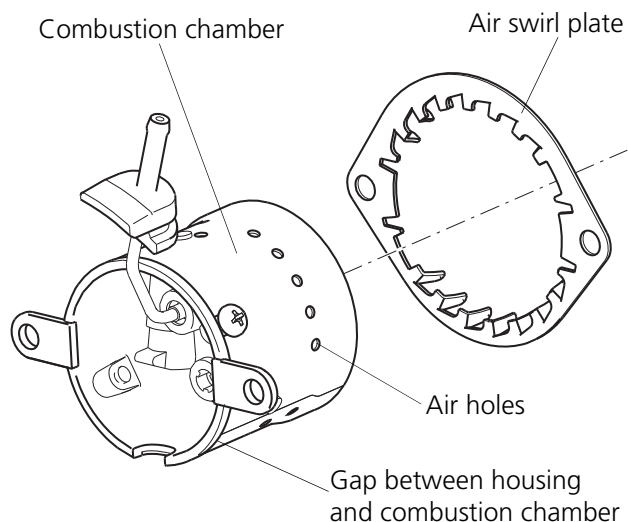

Figure 12: Visual check, complete burner
- The combustion chamber (Fig. 12) should not be damaged (e.g. dented). A dented combustion chamber can lead to poor combustion or carbon build-up in the heater.
- The air holes (Fig. 12) in the combustion chamber must not be blocked up by carbon deposits. If the air holes are blocked up by carbon deposits, this may result in failure of combustion to start or to run effectively.
- The screw connection of the housing and combustion chamber (Fig. 12) must be tight.
- The housing and the combustion chamber (Fig. 12) must be firmly connected together and there must not be any play (check by moving the fuel pipe slightly).
- The distance (gap) between the edge of the housing and the top edge of the combustion chamber (Fig. 12) does not have to be even all the way around.